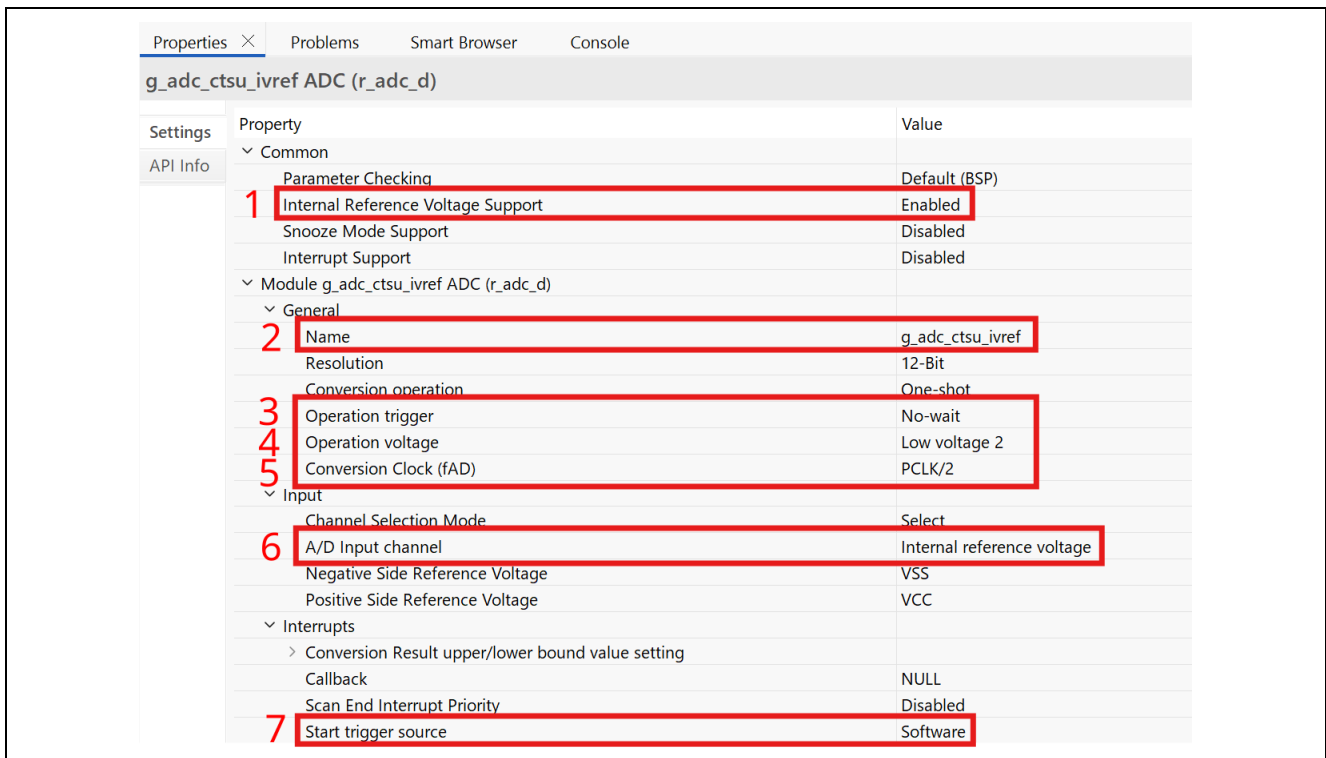

Figure 6-6 Configure "g_adc_ivref" (RA0L1/LV mode)
9. Select "g_adc1 ADC" and click [Properties] and change the following settings as shown in Figure 6-6.